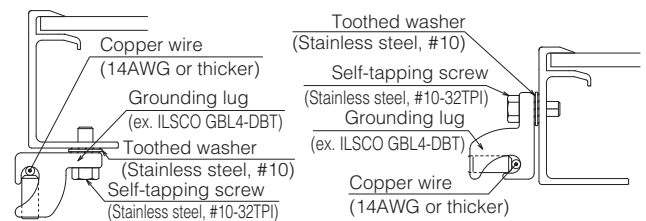

Fig. 4 Grounding method #2
- The appropriate device such as UL Listed ILSCO ground lug, Cat. No. GBL4-DBT should be secured by stainless steel screw (M5 or No.10) with 32 threads per inch by 2.3Nm (20lb-in) as shown in the figure 4.